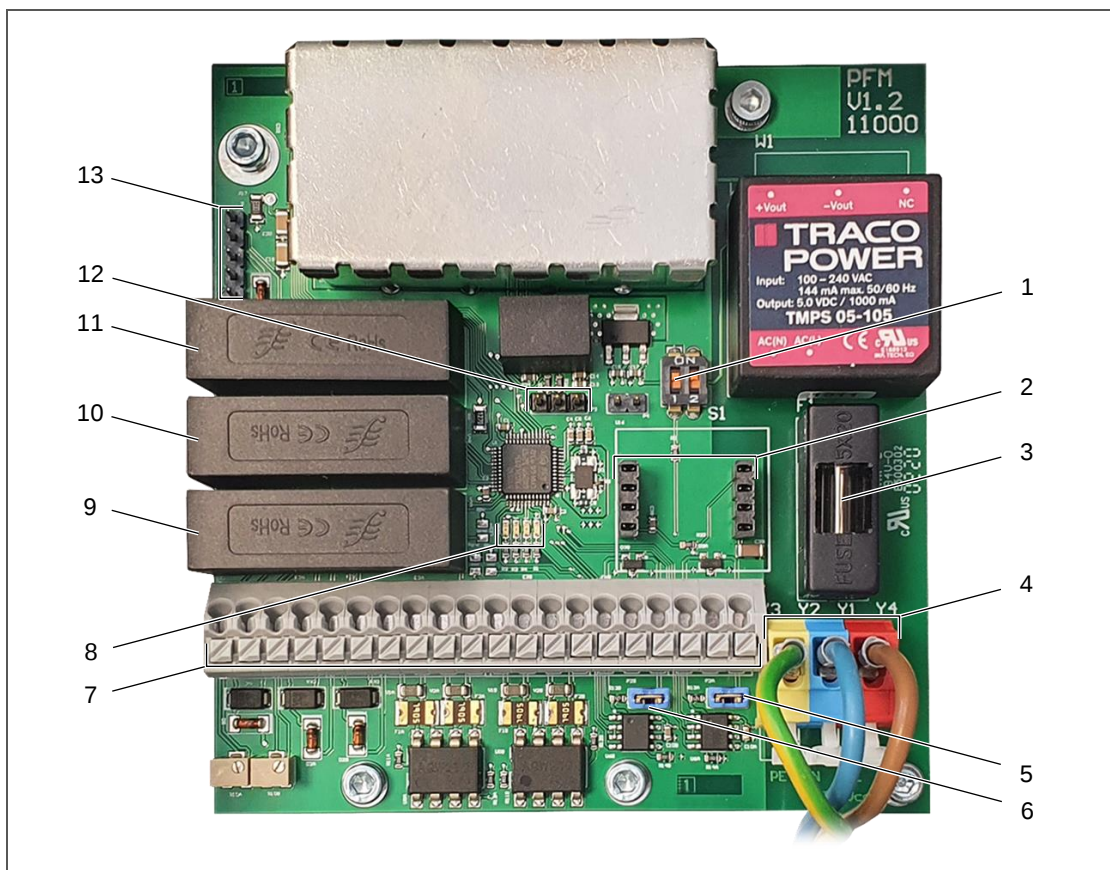

Fig 6: Signal module connections – power supply 110...230 V AC
- The operating mode switch for switching between measurement mode and maintenance (1, Fig 6, page 19) is labelled '1'. Set it to top position (ON) for measurement mode. (Switch 2 does not have a function.)
To do so, insert the USB cable's connector into the signal module's PC interface (12, Fig 6, page 19).